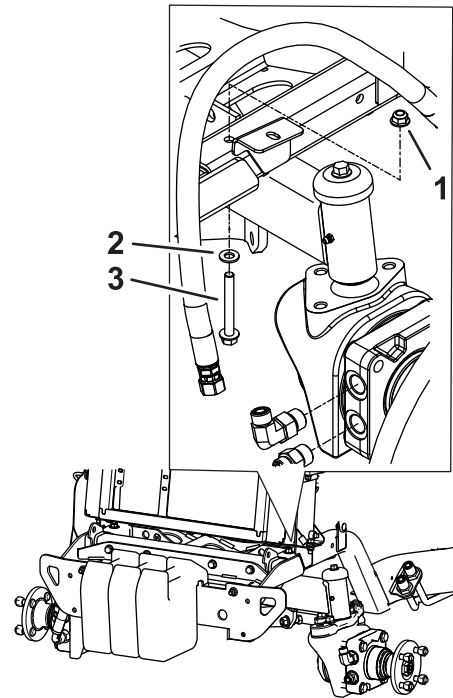

Figure 6
- Remove the existing nut and bolt under the radiator that secures the bumper bracket (Figure 6).